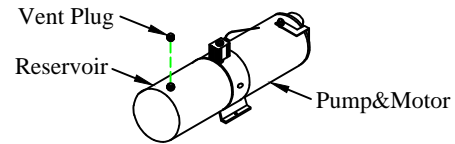

Figure 12: Vent plug.
- (1) Lower mounting kit
7. **Install** the vent plug provided into the pump reservoir (Figure 12).